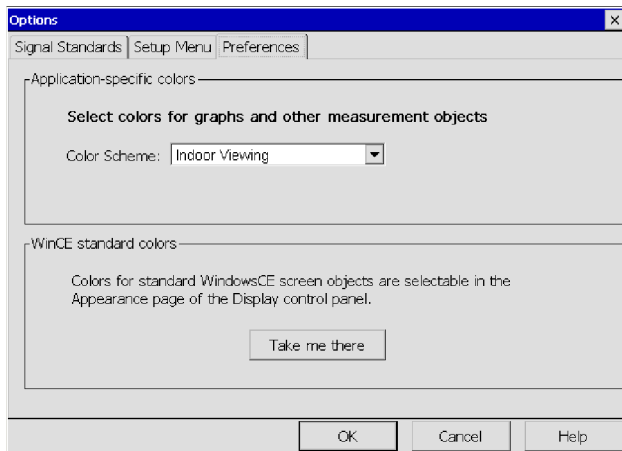

Figure 2-15: Preferences tab showing available color schemes
2. Select the **Preferences** tab. This displays the window shown in Figure 2-15.